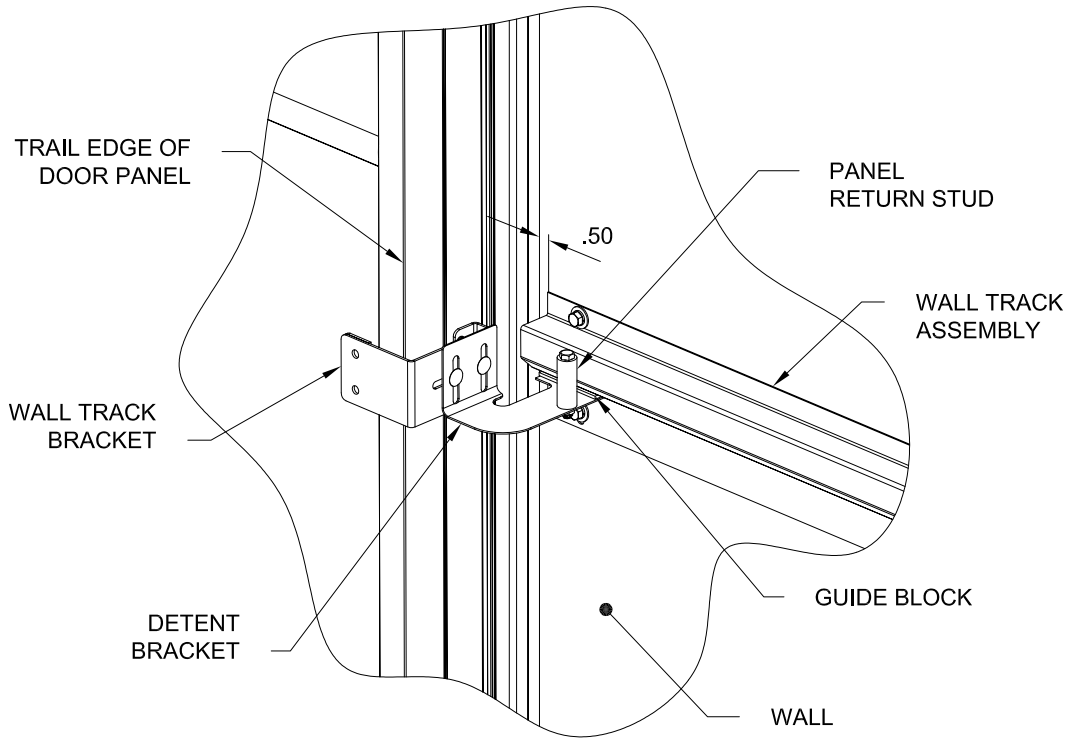

Figure 17: Wall Track Locator Assembly Detail
3. Mount detent bracket onto wall track bracket already mounted on door by asi. Hand tighten fasteners (5/16-18 x .75 Carriage bolts and 5/16-18 whizlock nuts) so that detent bracket is approximately centered vertically on slots in bracket (Figure 17).